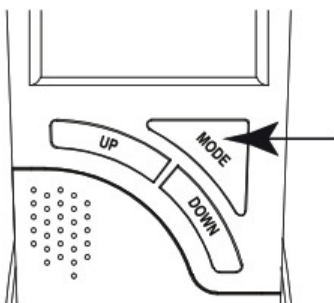
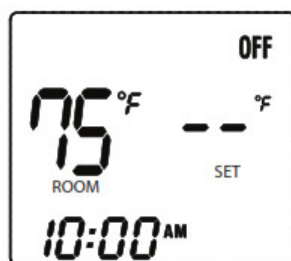

Fig. 3 Mode Button
Fig. 4 OFF Mode
To operate the transmitter, press and release the **MODE** button (Fig. 3) until the LCD screen reads **OFF** in the display (Fig. 4).
Step 3: Press the **MODE** button a third time to turn the appliance back **OFF** again as shown in Fig. 4.